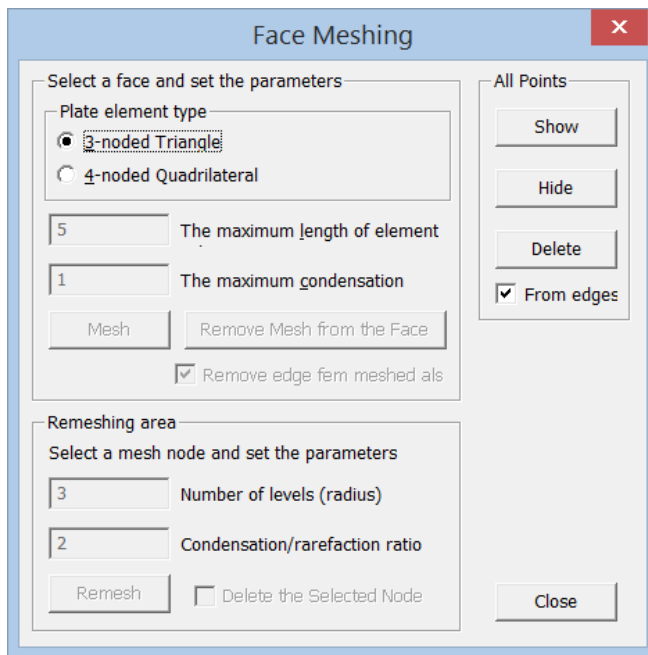
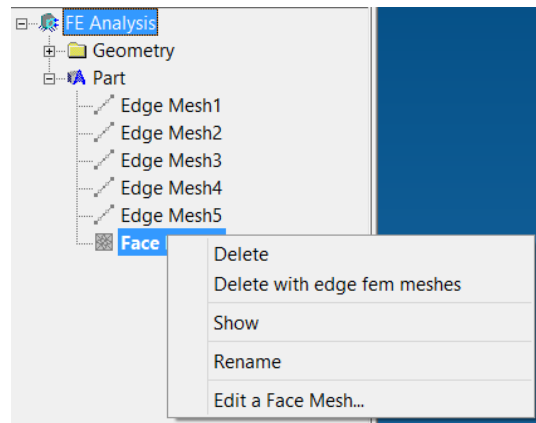
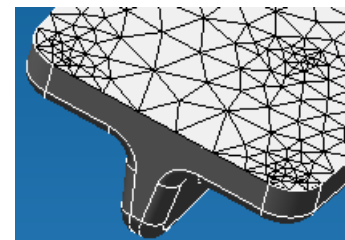

Fig. 2.4.6 Face Meshing dialog box
Fig. 2.4.7 Face mesh object
Fig. 2.4.8 Mesh with condensation
1. Specify a face, thus it will be highlighted in green and fields of a dialog box become accessible to input meshing parameters (fig. 2.4.6). Further enter parameters of a mesh (*The maximum length of element* and *The maximum condensation ratio*) and press the **Mesh** button. Thus *Face Mesh* and *Edge Mesh* objects connected with a face will be created in the *Tree* bar (fig. 2.4.7). A mesh will be drawn according to the entered meshing parameters. To generate mesh with other parameters press the **Remove Mesh from the Face** button and then mesh face with another parameters.
- Nodes on bounded edges are created at face meshing (fig. 2.4.7). These nodes on edges are connected with a face mesh. To remove mesh it is necessary to delete face nodes and then delete nodes on edges.
2. To condensate a mesh select a node. After that fields of dialog box become accessible to input mesh parameters (fig. 2.4.6). Enter *Number of levels (radius)* and *condensation/rarefaction ratio* and then press **Remesh** button (fig. 2.4.8).